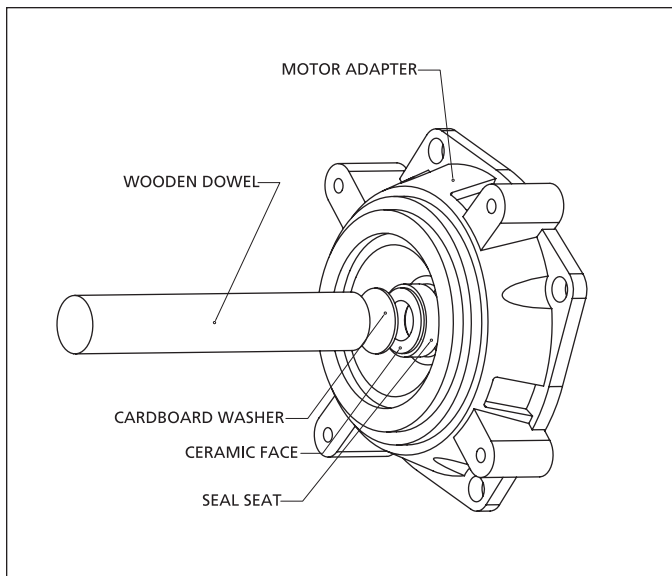

Figure 6 - Seal Seat Installation
3. Wet the rubber portion of the new seal seat (Ref. No. 4) with a light coating of soapy water. While wearing clean gloves or using a clean light rag, press seal seat squarely into adapter recess. Use the cardboard washer (usually supplied with new seal) to place over the polished surface and use a piece of pipe or dowel rod to press in firmly but gently. Avoid scratching the white ceramic face. (See Figure 6).